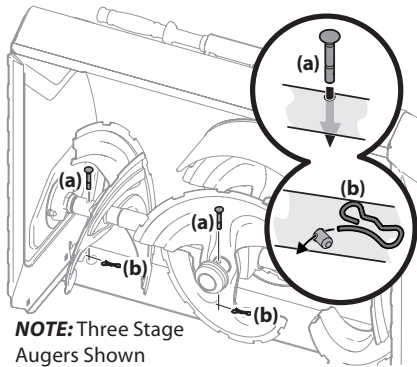

**Figure 4-5**
4. Apply a light coating of Bostik Regular Grade Never-Seez® to hex shaft. See Figure 4-5.